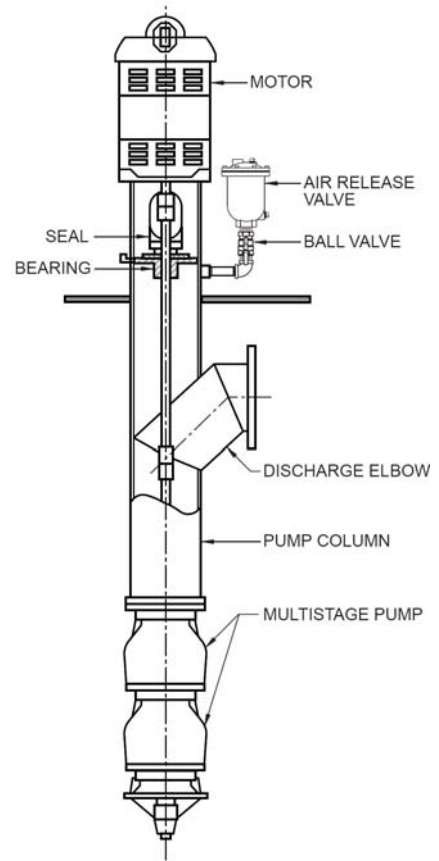

Figure 6. Vertical Pump with Below-Ground Discharge
5. **Below-Ground Discharge Pumps:** When the pump discharge elbow is several feet below the discharge head and the bearing is lubricated by the media, an Air Release Valve is needed on the top of the pump column as shown below. Otherwise, the water may not reach the top bearing and packing of the pump (Figure 6). Alternatively, the pump bearing can be lubricated with an external water source.